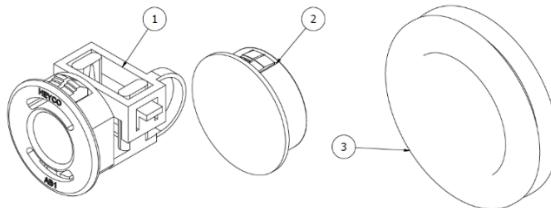

Figure 10 - Thermino Heat Battery Grommets & Strain Reliefs
- Remove the respective rubber grommets (Item 3 – Figure 10) in the outer housing and cut the centres (with a cross) with a knife. Re-insert the cut grommets. Do not cut the grommets in place, as this may damage the VIP.
- (Refer to Figure 10) Move the cable strain relief fittings (1) to the side you wish to make the entries / exits. Cover all other holes in the enclosure with the supplied blanking grommets (2).